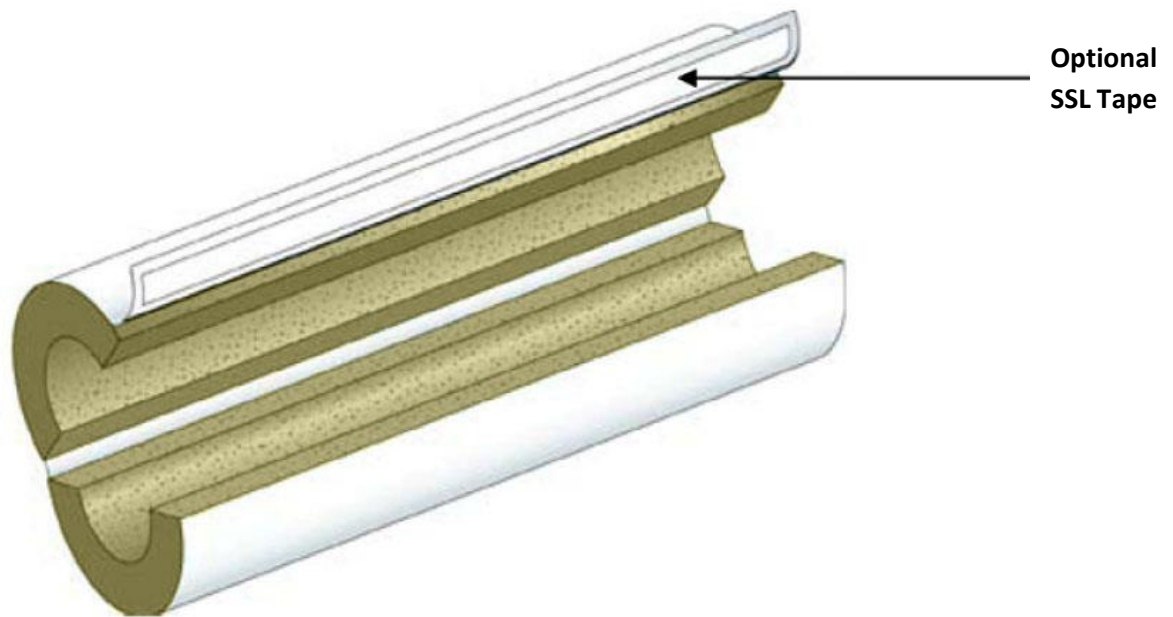

**Figure 6**
- 4.1.15 Vapor stops shall be used on either side of valves frequently removed for servicing, valve stations left exposed, or odd fittings, elbows, tees, etc. where the chance of moisture infiltration is high. Install per detail in Figure 6 in Appendix B or an approved alternate design.